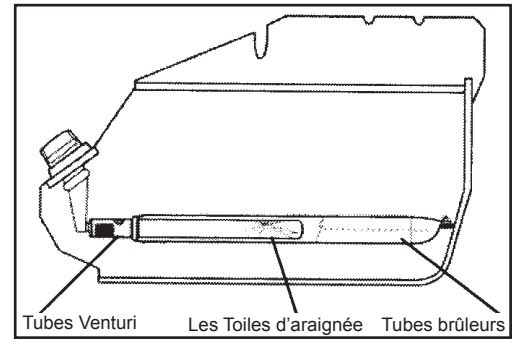

Fig. 4
**ATTENTION: GARDER LES TUBES VENTURI PROPRES. LES OBSTRUCTIONS CAUSÉES PAR LES TOILES D'ARAIGNÉE, NIDS D'INSECTES OU L'EAU PEUVENT CAUSER UN FEU DE RETOUR DE FLAMME. (FIG. 4)**